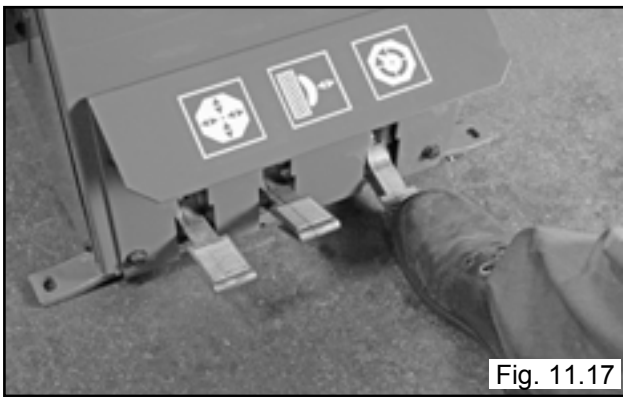

Fig. 11.17
19. Depress the Table Top Foot Pedal to rotate the wheel clockwise. (See Fig. 11.17)